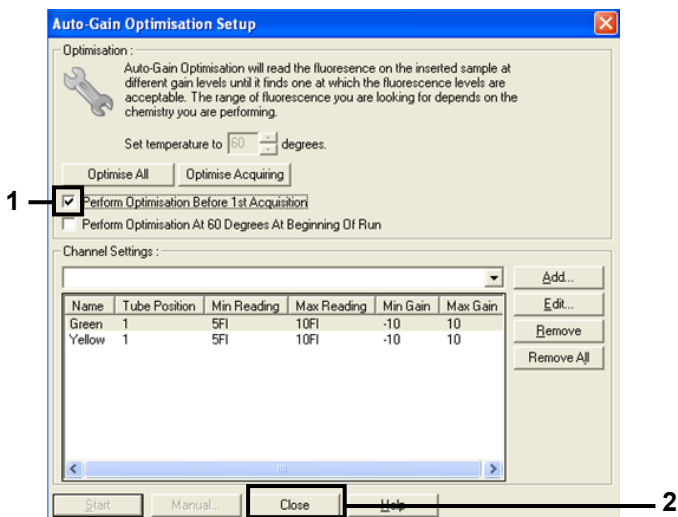

Figure 12. Selection of Green and Yellow channels. (1 = "Perform Optimization Before 1st Acquisition" check box; 2 = "Close")
14. Check the **Perform Optimization before 1st Acquisition** box, then click **Close** to return to the New Run Wizard dialog box (Figure 12).